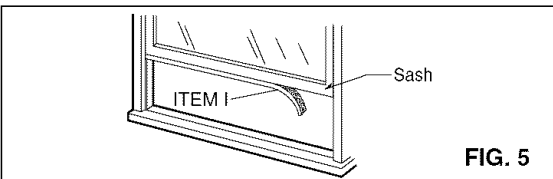

FIG. 5
**3** Cut the FOAM SEAL (ITEM I) to fit the underside of the window sash. Peel off the backing and attach the FOAM SEAL as shown in Fig. 5.